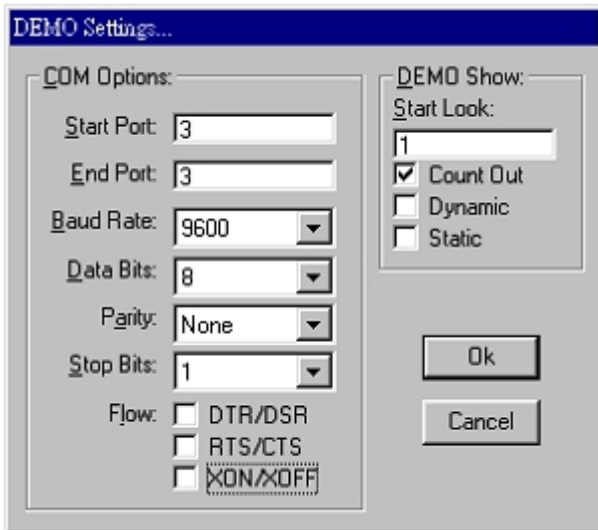

Fig.6
- 7 Click the “Setting” to set the RS422 loop counter (See the Figure 6); your system will detect the COM3.